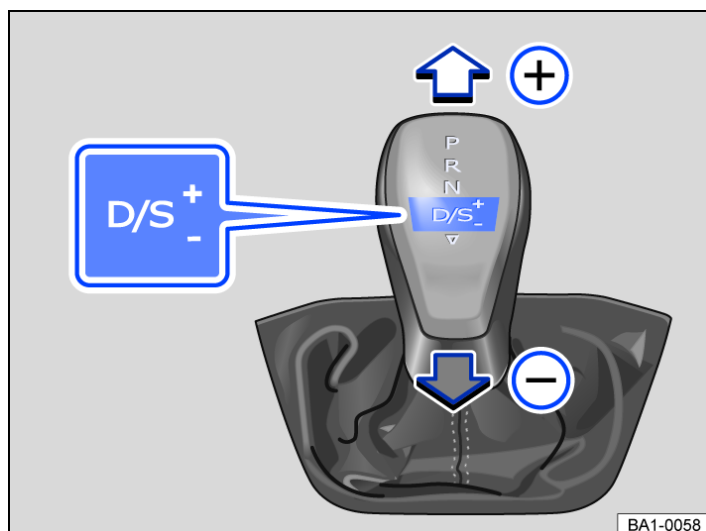

Fig. 1 Selector lever in Tiptronic position (left-hand drive).
- Tap the selector lever forwards  or back  to shift gear up or down → Fig. 1.